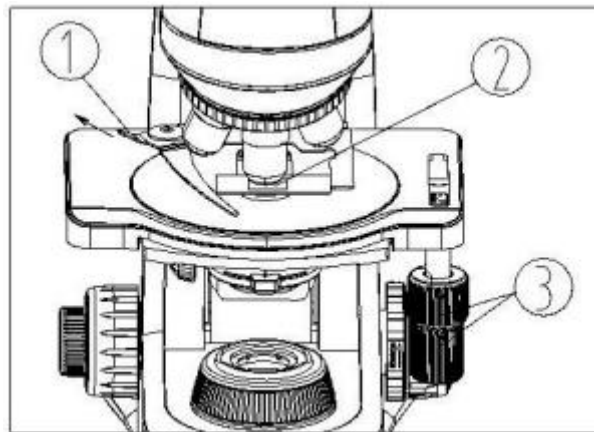

Figure 25
1. Push the wrench ① of the specimen holder backward.
2. Place the slide ② into the clip, then loosen the wrench ① and clamp the slide securely. (See Fig. 25).